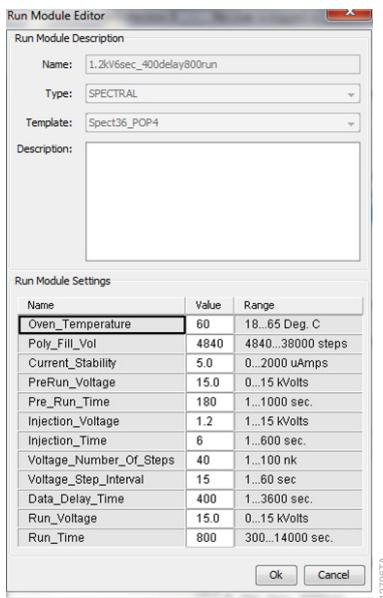

Figure 4. Run Module Editor settings.
- a. In the Run Module Editor, select “New”. Select “SPECTRAL” in the Type drop-down list, and select “Spect36_POP4” in the Template drop-down list. Change the Data Delay Time to 400 and the Run Time to 800. Change the Injection Time to 6 seconds. See Figure 4.